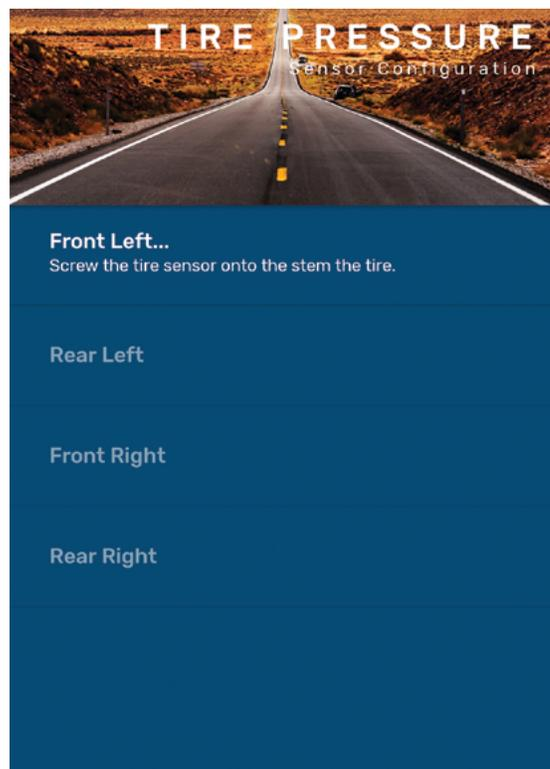

Fig.13
The OneControl app on the smart phone will indicate in specific order which tire the stem sensor cap should be installed (**Fig.13**): Front Left, Rear Left, Front Right, Rear Right, etc.
A. Select the Learn Sensors button (**Fig.12A**) in the **TIRE PRESSURE** app screen. The app will display a list of tires with instructions to screw the first stem sensor onto the Front Left tire stem (**Fig.13**).